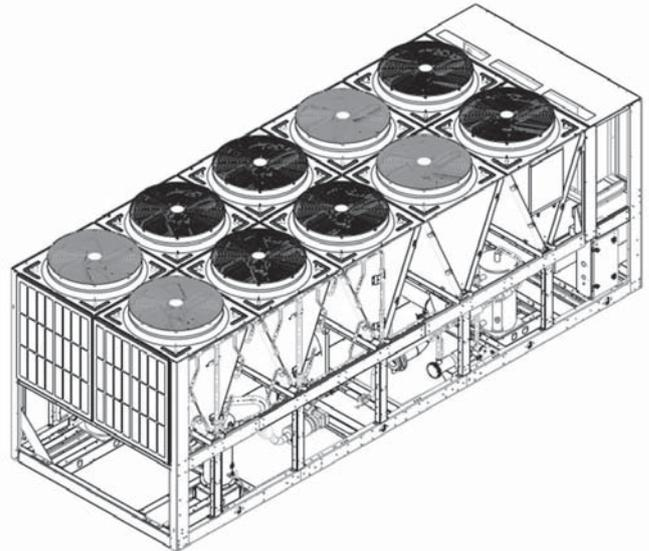

FIG. 6 – END HAIL GUARD
**END HAIL GUARD** – Louvered panels, painted the same colour as the unit, are installed on the rear of the unit (opposite end of the control panel) to protect the exposed condenser from flying debris or hail. See Figure 6.